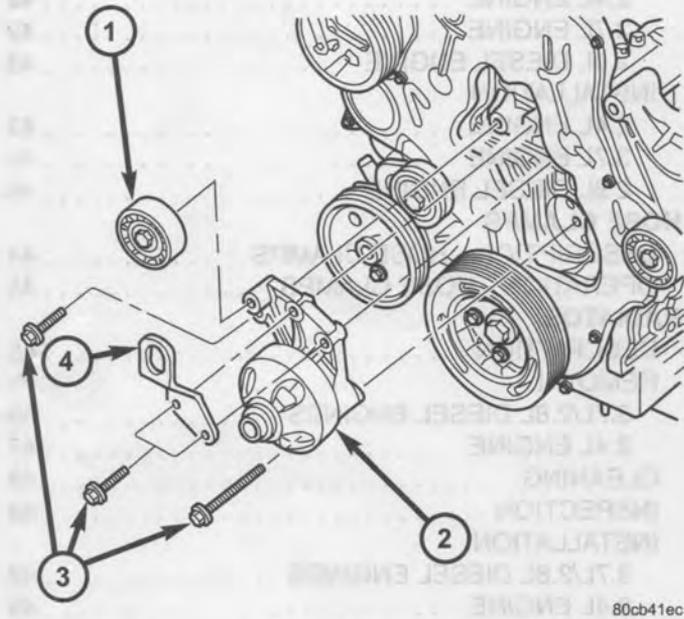
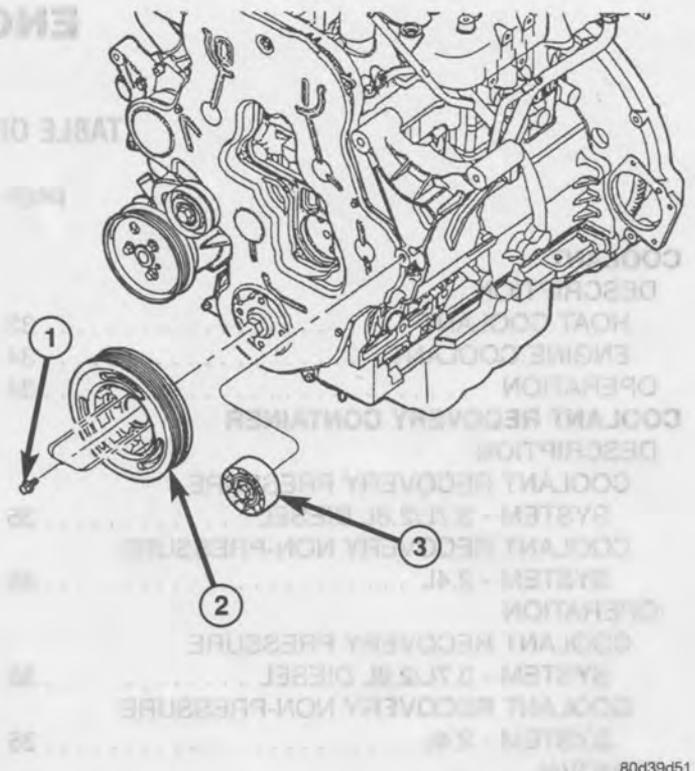

Fig. 12 COOLING FAN SUPPORT
Fig. 13 VIBRATION DAMPER AND IDLER PULLEY
- (1) Disconnect negative battery cable.
- (2) Remove accessory drive belt (Refer to 7 - COOLING/ACCESSORY DRIVE/DRIVE BELTS - REMOVAL).
- (3) Remove idler pulley retaining bolts and pulleys (Fig. 12) (Fig. 13).
- (1) Install idler pulleys and retaining bolts (Fig. 12) (Fig. 13). Torque bolts to 53N·m.
- (2) Install accessory drive belt (Refer to 7 - COOLING/ACCESSORY DRIVE/DRIVE BELTS - INSTALLATION).
- (3) Connect negative battery cable.